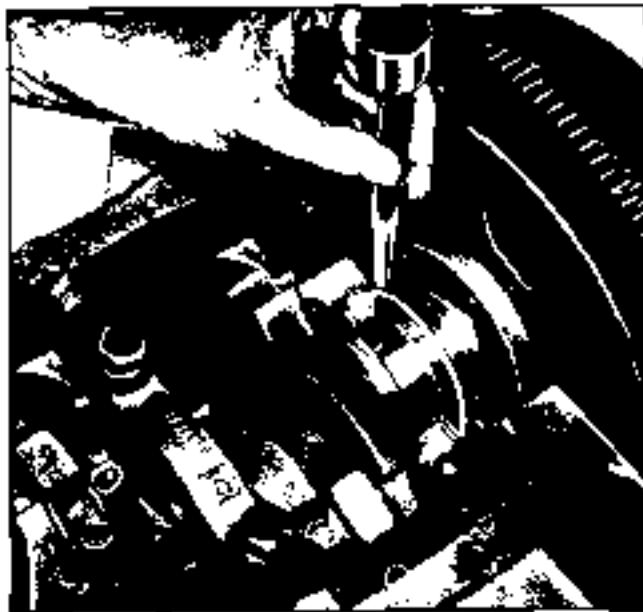

Fig. 6-46 Removing Upper Rear Main Oil Seal
6. To replace the upper half of seal, use a small hammer and brass pin punch to tap one end of oil seal (Fig. 6-46) until it protrudes far enough to be removed with pliers. Push new seal into place.